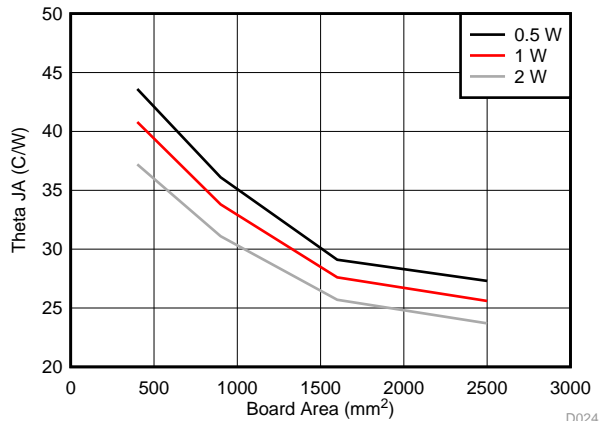

Figure 17. $R_{\theta\text{JA}}$ vs Copper Board Area
It is easy to see that larger ambient temperatures (T_A) and larger values of R_{θJA} reduce the maximum available output current. As stated in Semiconductor and IC Package Thermal Metrics, the values given in the Thermal Information table are not valid for design purposes and must not be used to estimate the thermal performance of the application. The values reported in that table were measured under a specific set of conditions that are never obtained in an actual application. The effective R_{θJA} is a critical parameter and depends on many factors such as power dissipation, air temperature, PCB area, copper heat sink area, number of thermal vias under the package, air flow, and adjacent component placement. The LM53603 uses an advanced package with a heat spreading pad (EP) on the bottom. This must be soldered directly to the PCB copper ground plane to provide an effective heat sink, as well as a proper electrical connection. The resources in Ground and Thermal Plane Considerations can be used as a guide to optimal thermal PCB design and estimating R_{θJA} for a given application environment. A typical example of R_{θJA} versus copper board area is shown in Figure 17. The copper area in this graph is that